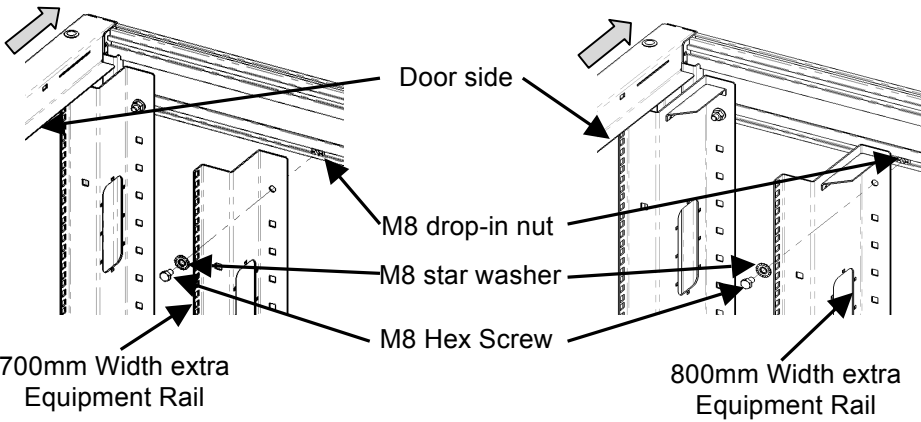

Fig. 8
- 7. Repeat above steps for 700mm and 800mm Equipment Rail(see Fig.8 and 9).